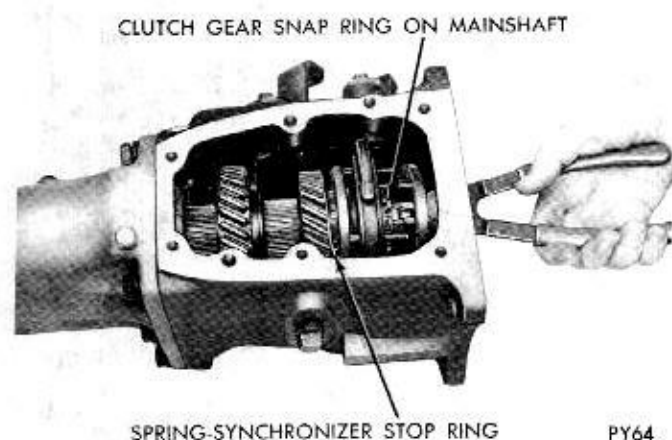

Fig. 20—Removing or Installing Clutch Gear Snap Ring
(1) Remove clutch gear retaining snap ring from mainshaft (Fig. 20).
(6) Install synchronizer clutch gear snap ring (Fig. 20) on mainshaft.